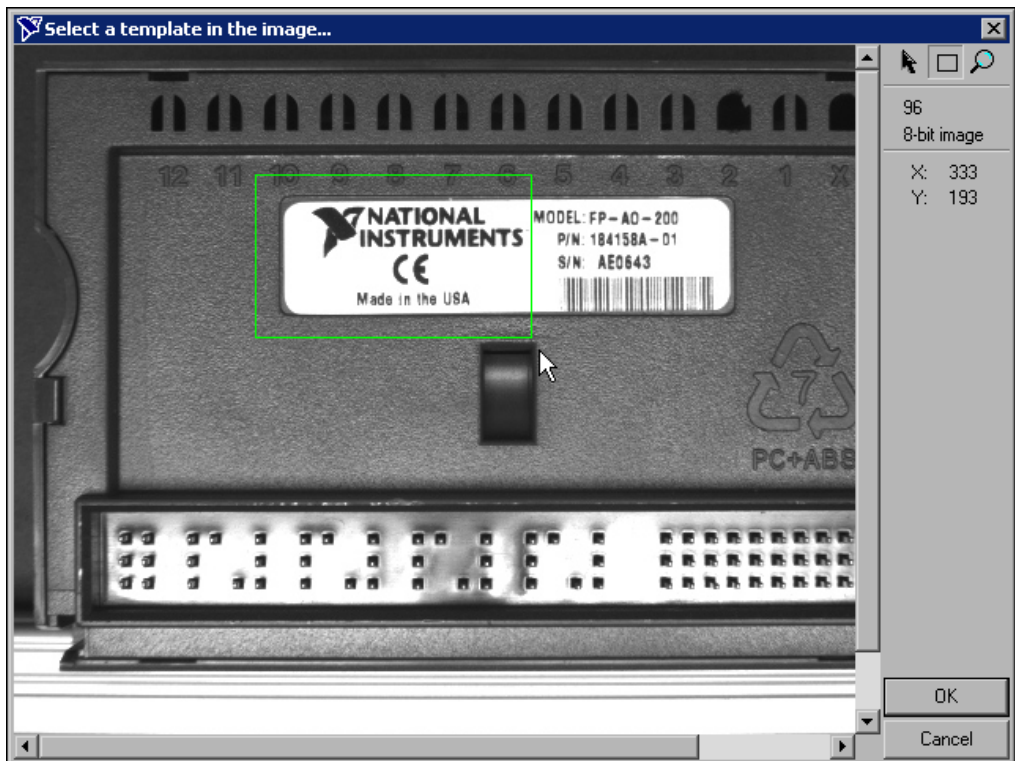

Figure 1-4. Creating a Template Pattern
- Draw a *region of interest* around the area of the image containing the label, as shown in Figure 1-4. This region becomes the *pattern matching template*.